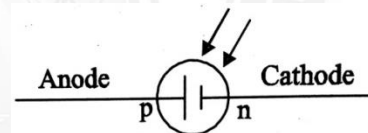

Fig. 4.15
5. The symbol of solar cell is as shown in fig. 4.15.